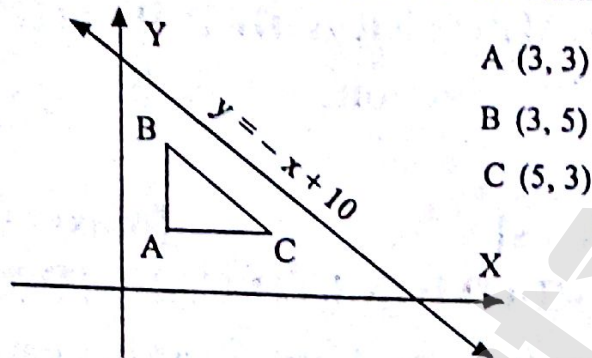

Fig. Q. 3a
3. (a) A triangle shown in fig. Q. 3a is to be reflected about the line  $y = -x + 10$ . Find the transformation matrix and the new vertices of triangle. 8